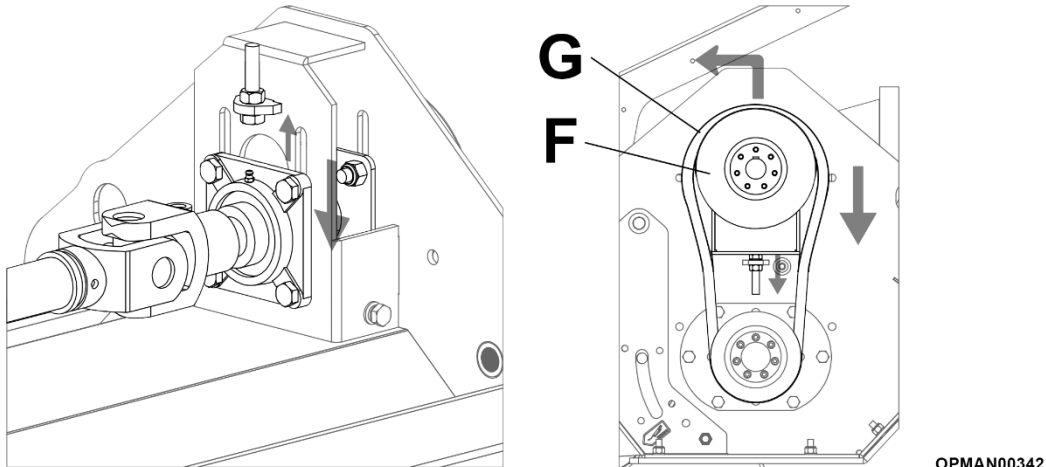

Figure 5.46 – Secondary Belt Replacement
The aim is to make the upper pulley (F) fall down, so the belt (G) can be easily be slipped on/off; see Figure 5.46.